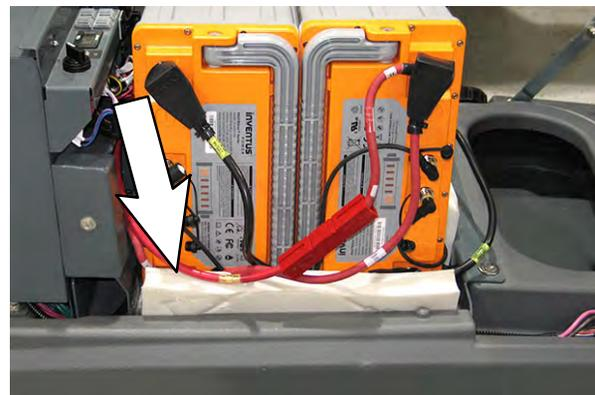

FIG. 46
44. Insert a foam spacer (2) in front of the lithium batteries (1). (Fig. 46)